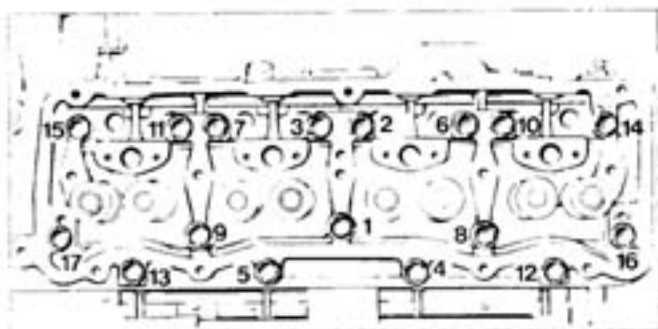

FIG. 22 - BOLT TIGHTENING SEQUENCE (4 Cyl.)
**TO TIGHTEN CYLINDER HEAD BOLTS:** Start and run engine until normal operating temperature is reached. Stop engine. Remove rocker arm cover from top of engine. Tighten cylinder head bolts in sequence as shown in figures 22 and 23 to a torque of 105 to 110 ft./lbs., engine hot. (130-135 ft./lbs. for turbo models). Check valve clearances before replacing rocker arm cover.